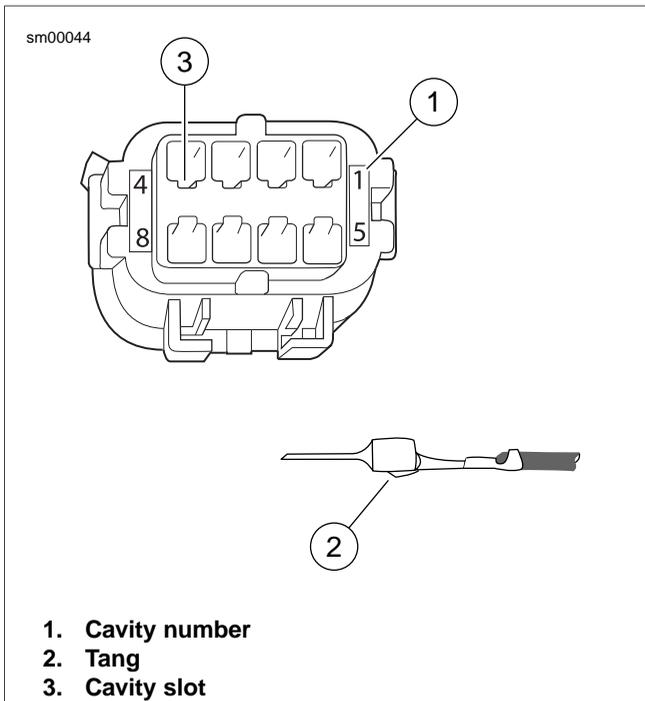

Figure A-31. Molex Connector: Pin Cavities and Wire Terminal
1. See Figure A-31. From the wiring diagram, match the wire color to its numbered terminal cavity.